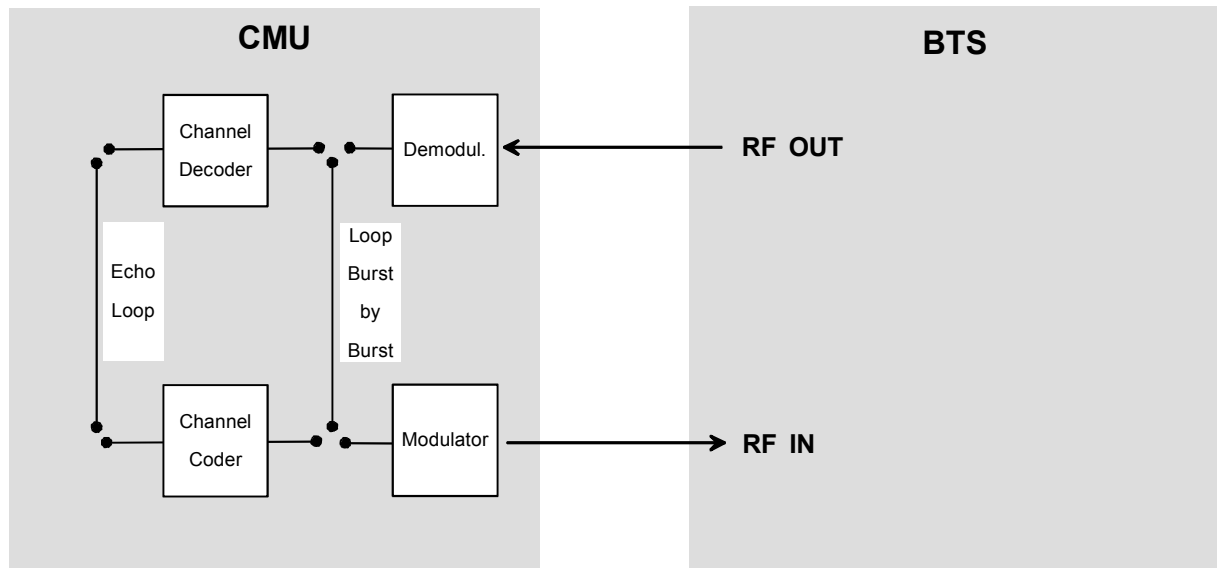

Fig. 4-64 Signal paths for different bit stream settings
*Loop Burst by B.* Loop-back mode without channel coding/decoding; see Fig. 4-64 below. This mode is available only if *TCH Chan. Type Speech...* or *ECSD E-TCH/F43.NT* is selected (see *TCH Chan. Type* softkey on p. 4.131).